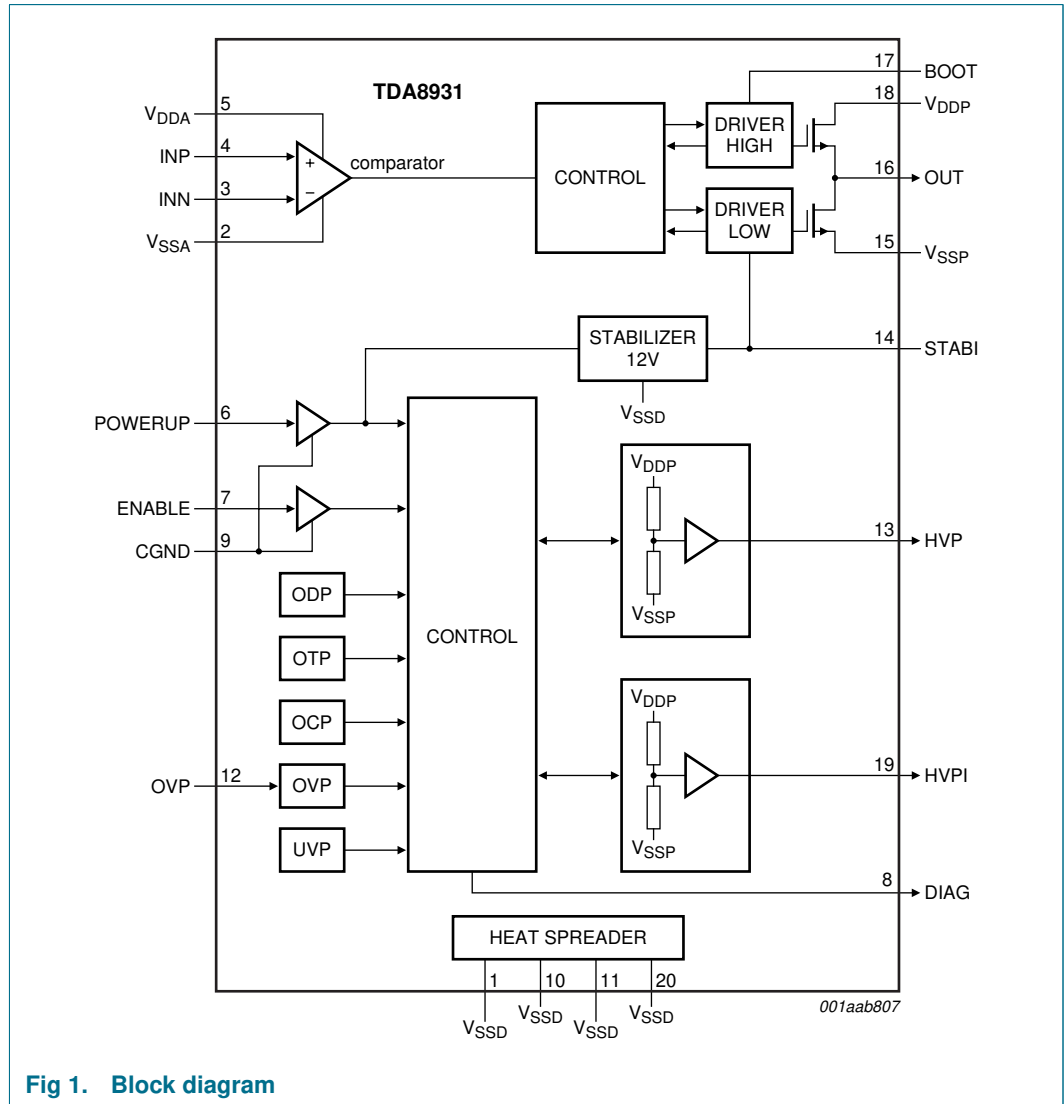

Fig 1. Block diagram
The TDA8931 is a switching power stage for high efficiency class-D audio power amplifier systems. It contains a Single-Ended (SE) power stage, drive logic, protection control logic, a full differential input comparator and a HVP charger to charge the SE capacitor (see Figure 1). With this amplifier a compact 1 × 20 W closed loop self-oscillating digital amplifier system can be built. A second order low-pass filter converts the PWM output signal into an analog audio signal across the speaker.